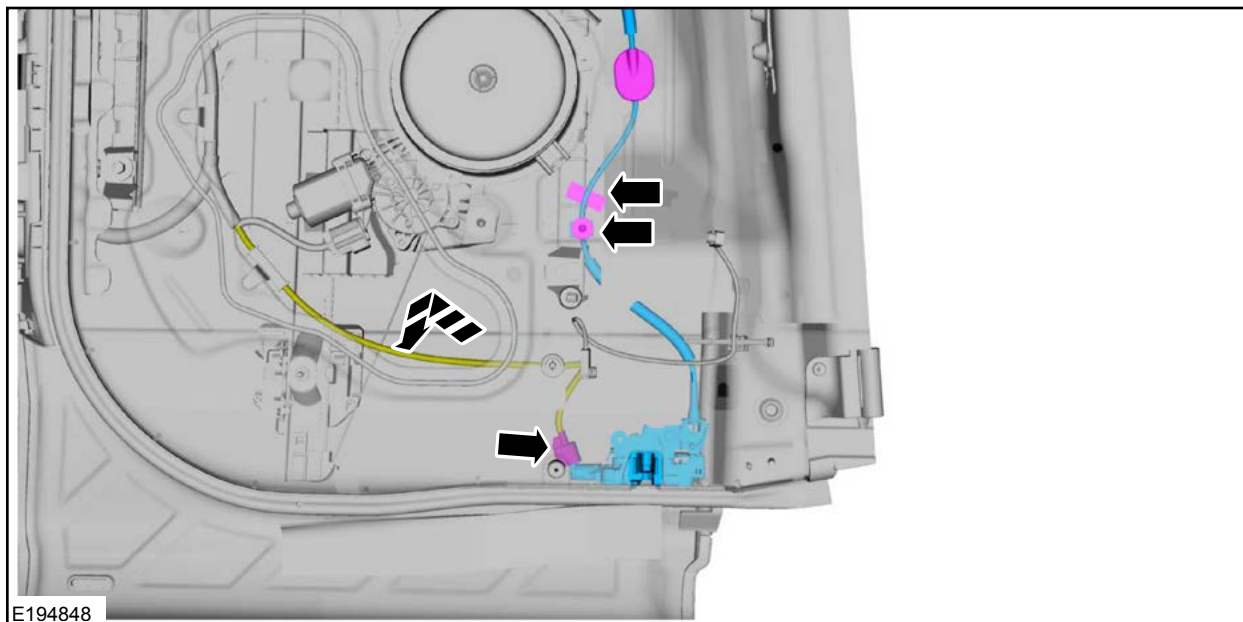

FIGURE 15
3. Inspect the interior door handle to latch cable for kinking. See Figure 15.
5. Detach the cable retainers and disconnect the electrical connector. Position the rear door latch outside of the door. See Figure 15.
10. Position the rear door lower latch back into the door. Attach the cable retainers and connect the electrical connector. See Figure 15.